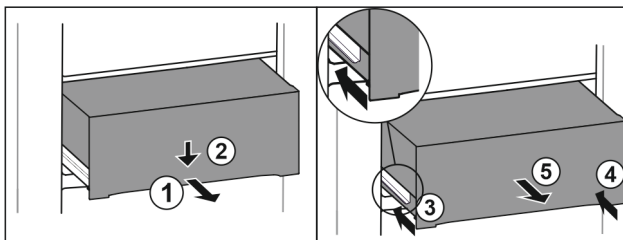

Fig. 104
- Pull out drawer half-way. Fig. 104 (1)
- Push the drawer down at the front. Fig. 104 (2)
- Push the left rail in by about 2 cm. Fig. 104 (3)
- Push the right rail in by about 2 cm. Fig. 104 (4)
- Remove drawer to the front. Fig. 104 (5)